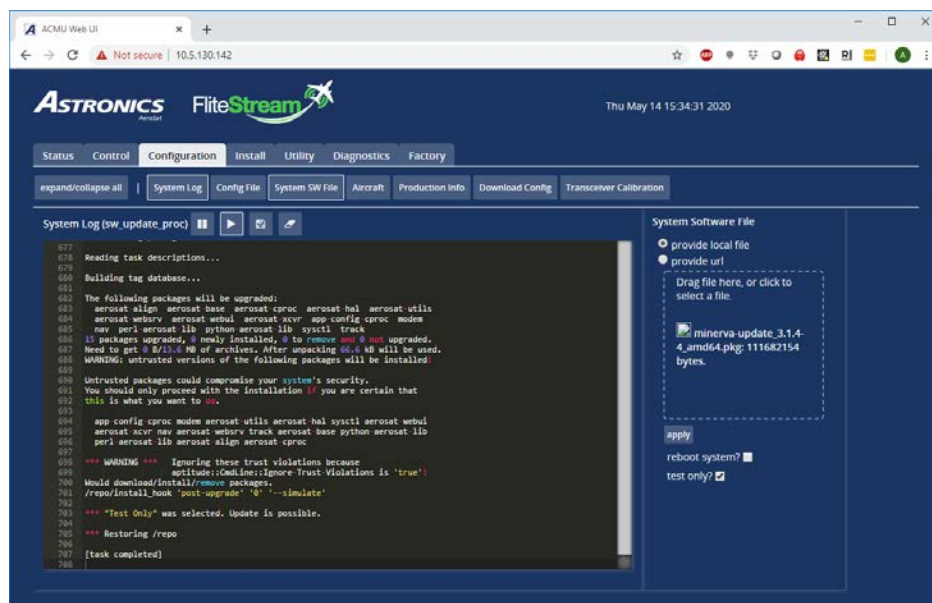

Figure 7.1.2 Test Completed
10. If the test is successful, the following output will be displayed as shown in figure 7.1.2: